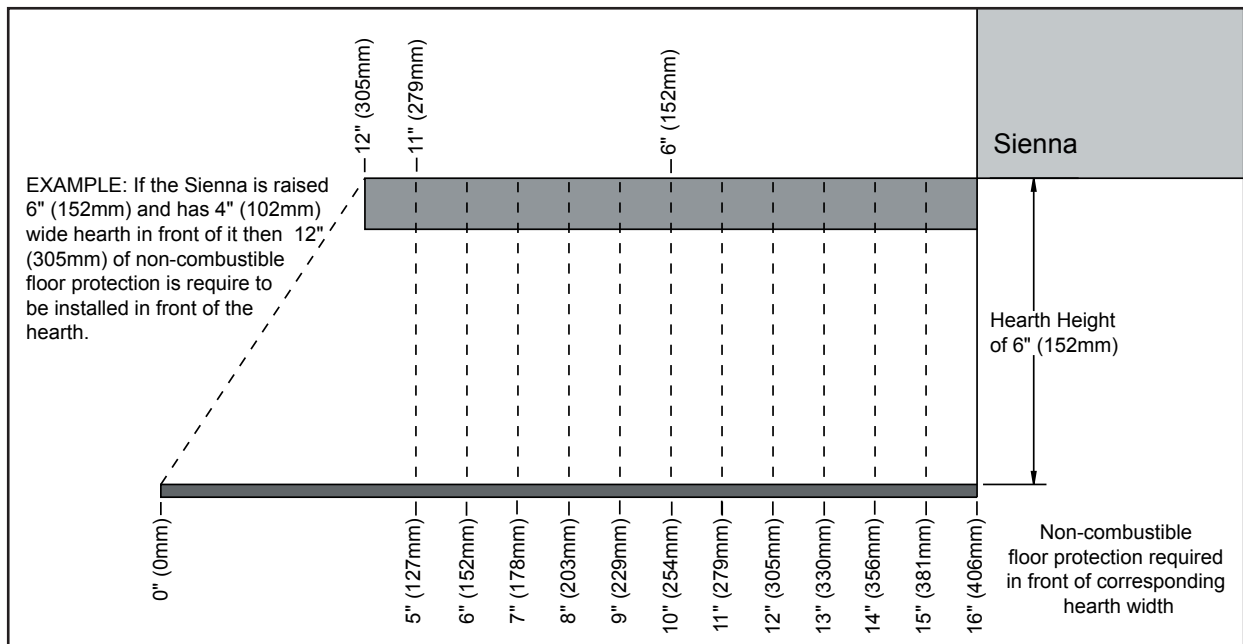

Figure 17: Floor protection distance required.
- Refer to Figure 17 for additional required floor protection dimensions with different width hearths.